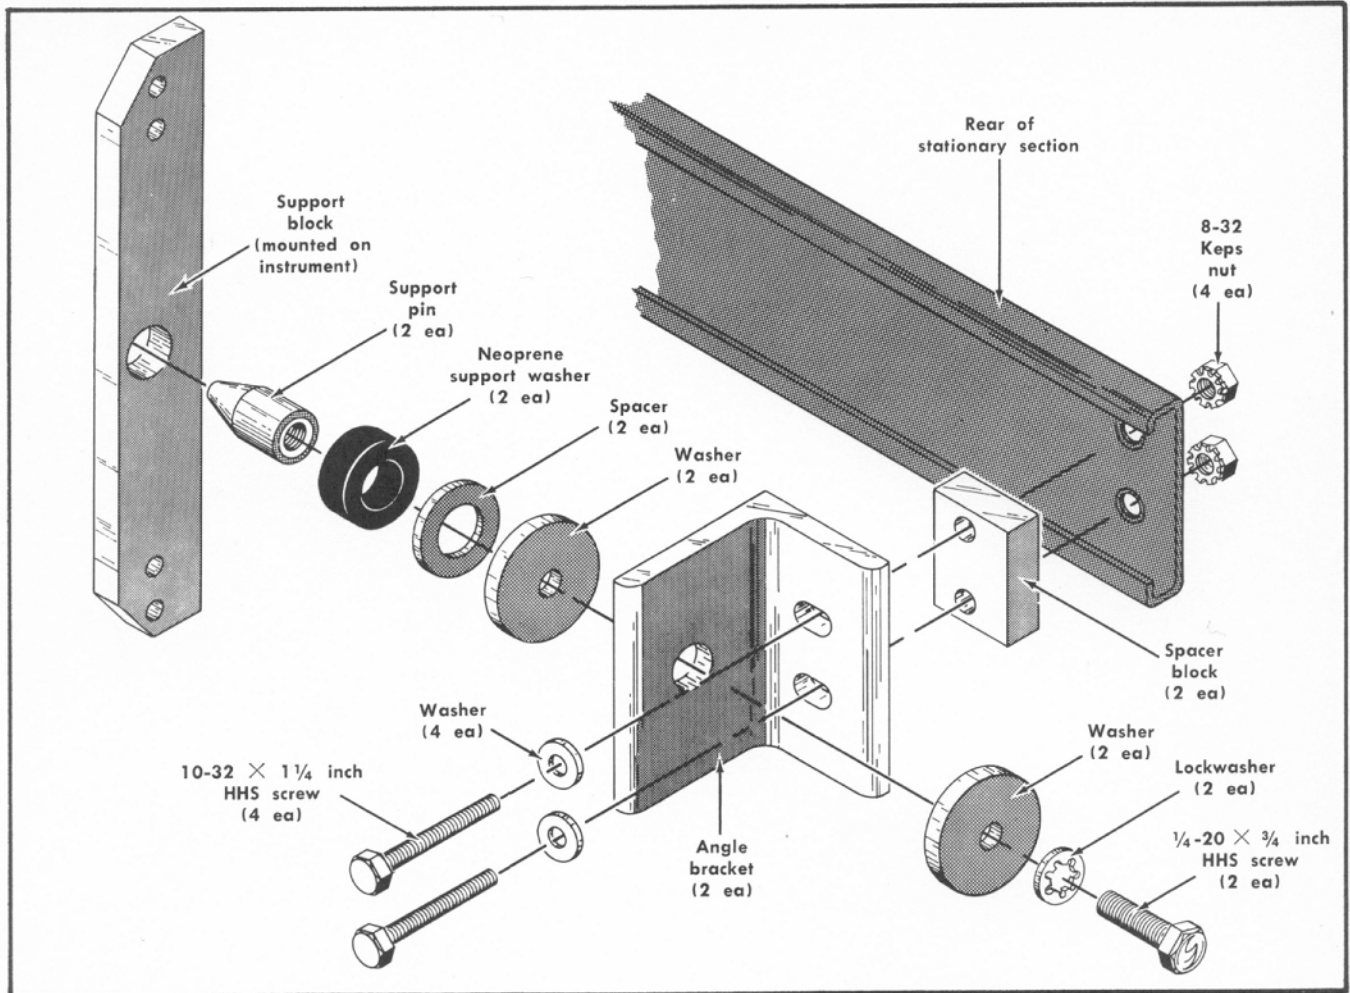

Fig. 10-7. Rear support kit.
3. Attach an angle bracket to both rear rails of the rack through the spacer block, stationary section and into the rear rail of the rack. Note that the holes in the spacer block are not centered. Be sure to mount the block with the narrow edge toward the front of the rack; otherwise, the instrument may not slide all the way into the rack. Do not tighten the mounting screws. Fig. 10-7 shows the parts in the rear support kit and the order in which they are assembled.
4. Assemble the support pin to the angle bracket in the order shown in Fig. 10-7. Leave the spacer (washer) off, but install the neoprene washer.